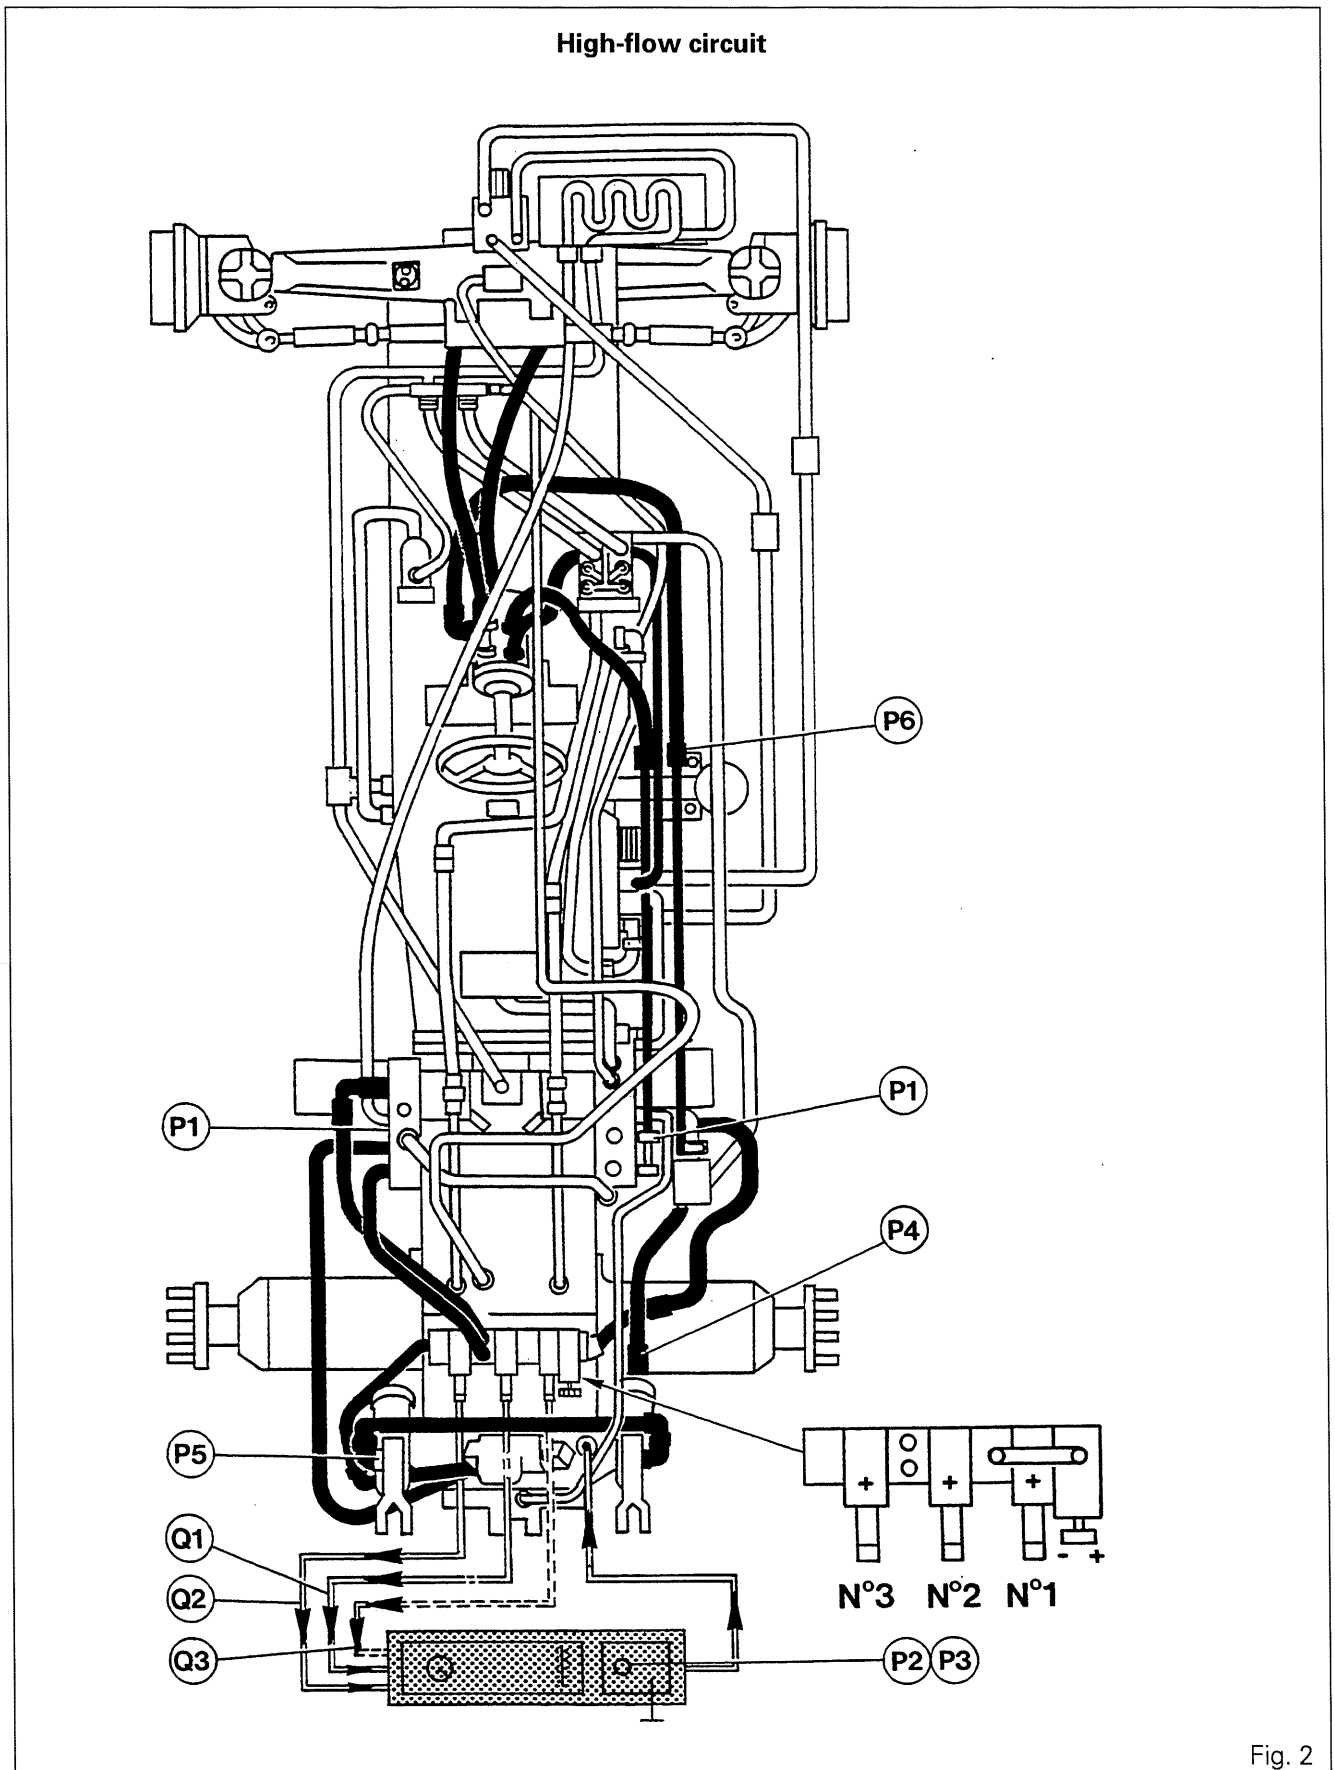

Fig. 2
- Connect the flowmeter inlet to a quick coupler on auxiliary spool valve No. 2 (Fig. 2) and connect the return directly to the housing via the transmission filler port.
- Connect up the flowmeter as described in part A.2 but on spool valve No. 1 (Fig. 2).